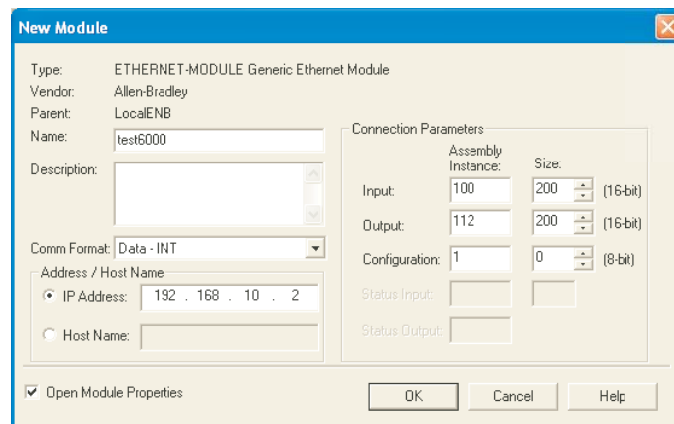

Figure 4.3.21p Enter parameters
4. In the Parameters page that appears (figure 4.3.21p), enter a name for the module, and set the following values: